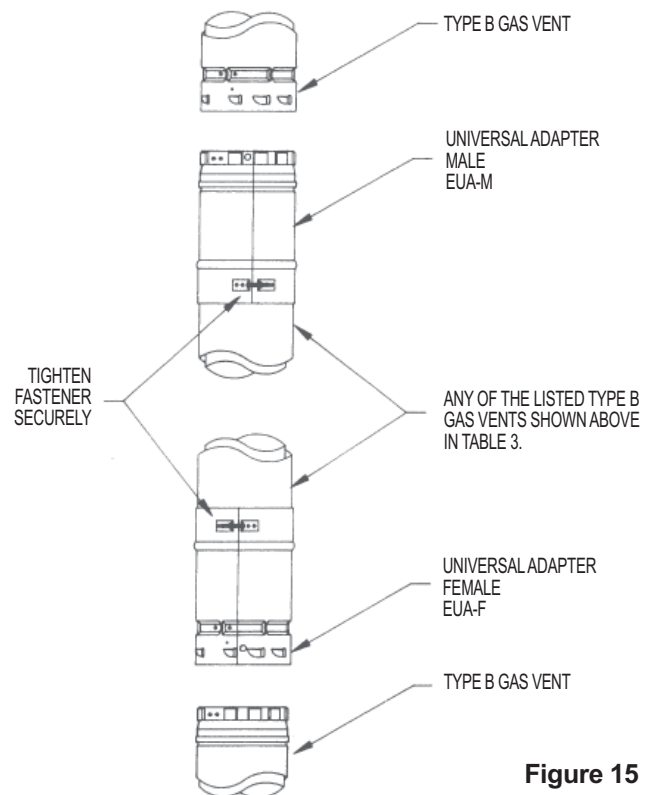

Figure 15
1. The Universal Adapter is installed, as shown in **Figure 15**, by sliding the Adapter over the outside wall of the other listed Type B Gas Vent. For the Male Adapter, the inner wall goes inside the other Gas Vent, while the inner wall for the Female Adapter goes around the outside of the bottom end of the inner wall of the other Gas Vent.